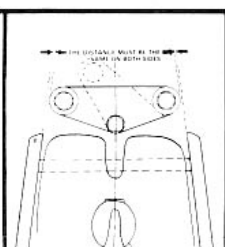

fig. 8
- c. Stand on the footpegs. Check bracket for centering with the bike and adjust as necessary. This is done by turning the handlebars to full lock, left and right, and tapping the mount until side spaces are equal - see figure 8.